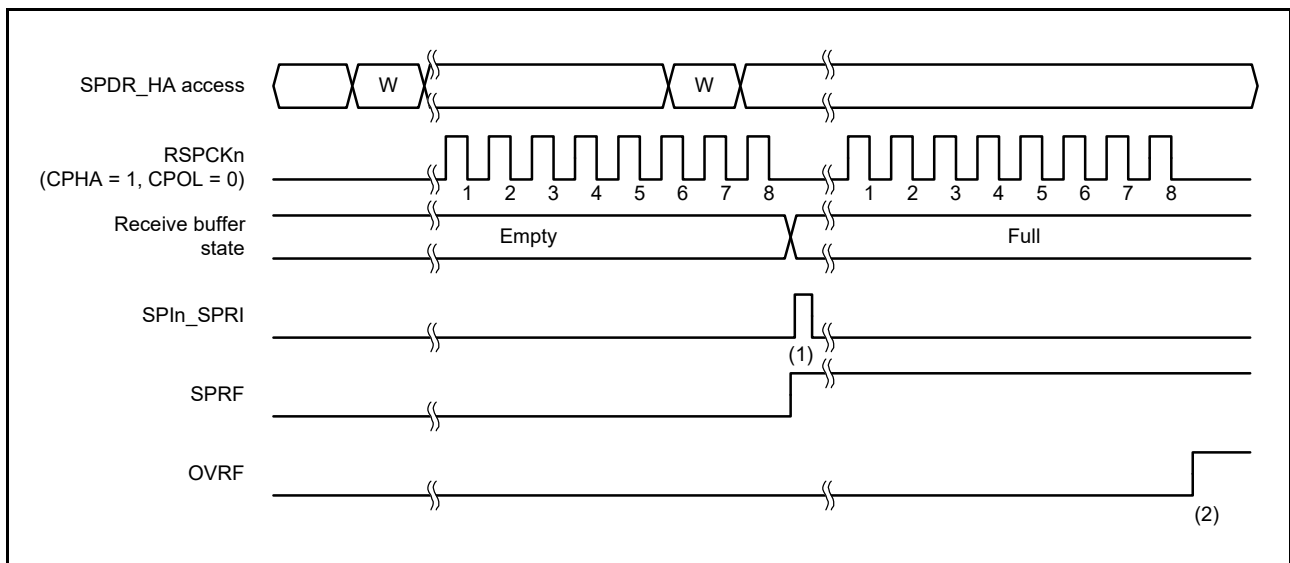

Figure 31.24 Operation example when SPCR.TXMD = 0
Full-duplex synchronous serial communications or transmit operations can only be selected by the communications operating mode select bit (SPCR.TXMD). The SPDR/SPDR\_HA access shown in Figure 31.24 and Figure 31.25 indicate the condition of access to the SPDR/SPDR\_HA register, where W denotes a write cycle.
Figure 31.24 shows an example of operation where the communications operating mode select bit (SPCR.TXMD) is set to 0. In the example in Figure 31.24, the SPI performs an 8-bit serial transfer in which the SPCMD0.CPHA bit is 1 and the SPCMD0.CPOL bit is 0. The numbers given for RSPCKn in the waveform represent the number of RSPCK cycles, meaning the number of transferred bits.
The operation of the flags at timings shown in (1) and (2) in Figure 31.24 is as follows: